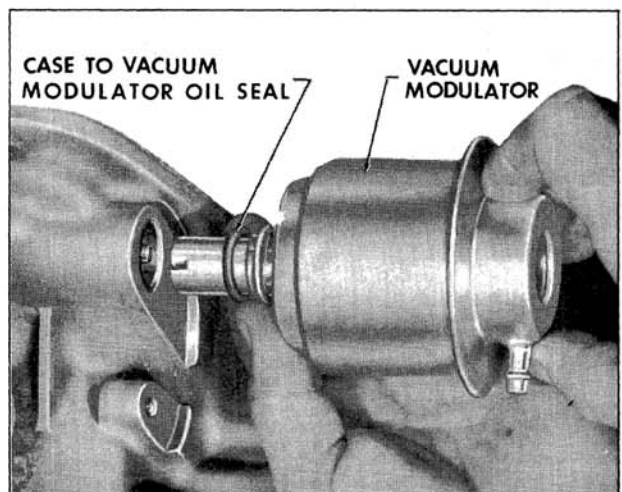

Fig. 6-373 Removing Vacuum Modulator
2. Inspect and if necessary remove vacuum modulator to case oil seal. (Fig. 6-373)